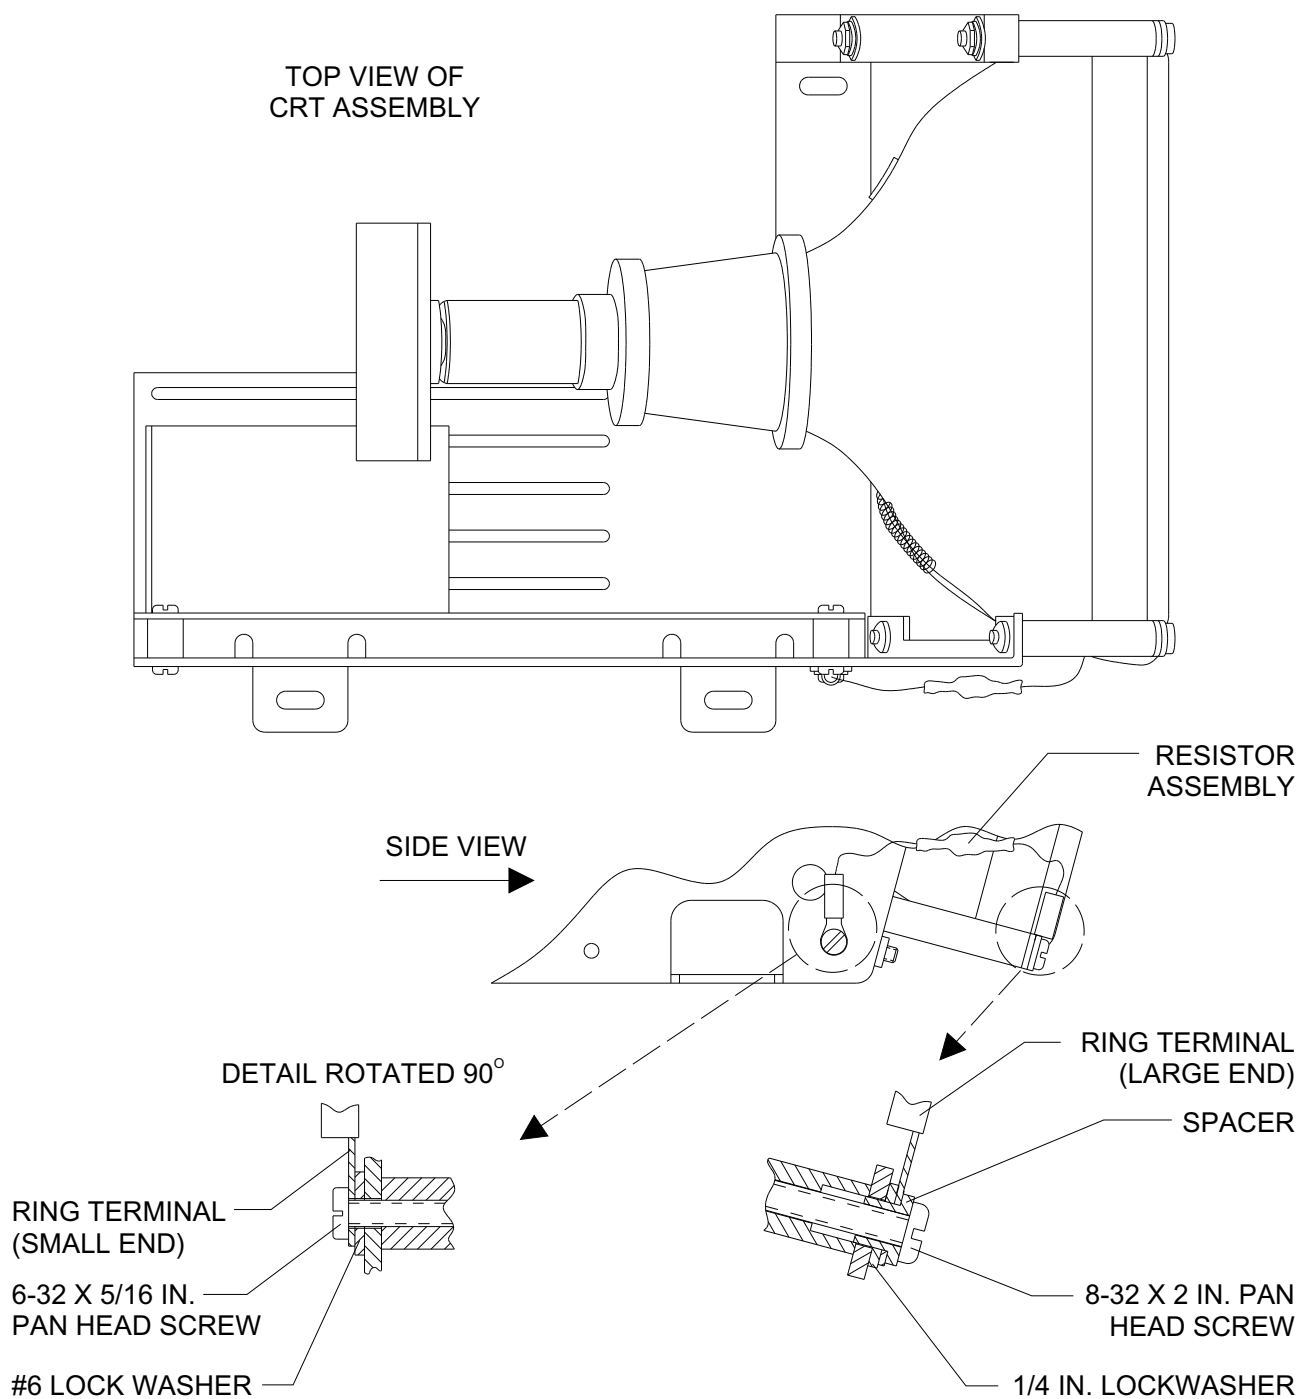

Figure 2: CRT ASSEMBLY AND RESISTOR INSTALLATION DETAILS
8. Remove the the 8-32 x 2 in. screw from the lower left corner (viewed from the front) of the CRT bracket assembly. See Figure 2.
9. Assemble the larger ring terminal end of resistor assembly (P/N 4113005) and a ¼ dia. int-t lock washer (P/N HW67005) over the spacer as shown in the detail of Figure 2.
11. Remove the existing 6-32 x ¼ in. screw from the side of the CRT bracket assembly at the location shown in Figure 2.
12. Install the smaller ring terminal end of the resistor assembly onto the CRT bracket with a 6-32 x 5/16 in. pan head screw (P/N HW02010) and a #6 ext-t lockwasher (P/N HW68000). Position the crimp of the ring terminal straight up and down as shown in Figure 2.